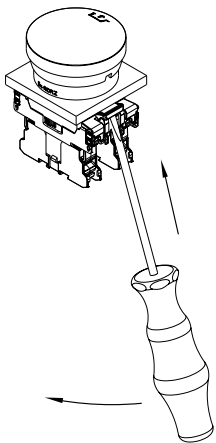

Fig. 11
1. Disassembly of the contact carrier from the mounting flange (see Fig. 11):